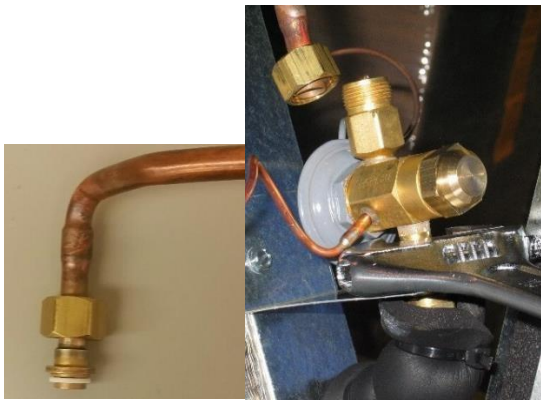
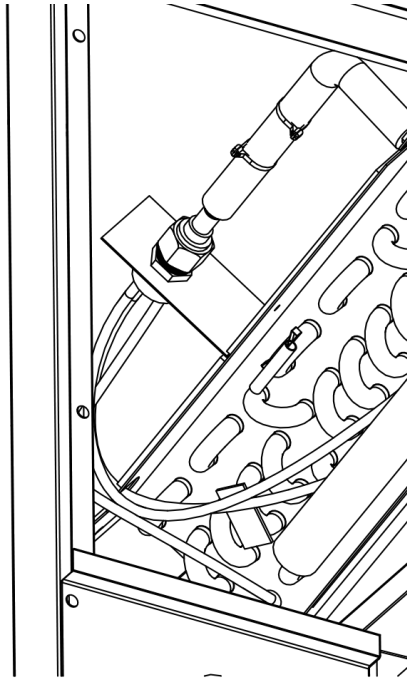

Figure 25. Install White Teflon O-ring in both connections (not on iSeries). Attach and tighten lower connecting nut
Figure 31. Attach and tighten connection nut straight to distributor (iSeries coils only)
1. Cut the zip ties holding the liquid line in place before installing the TXV. Install the white Teflon o-ring in both connections of the TXV (Figure 25). Attach and tighten lower connecting nut to the distributor as shown in Figure 25. On iSERIES, connect liquid line directly to the distributor (Figure 31).
For the iSeries coil, connect the small tube directory to the distributor, where the TXV would normally be located (Figure 31).